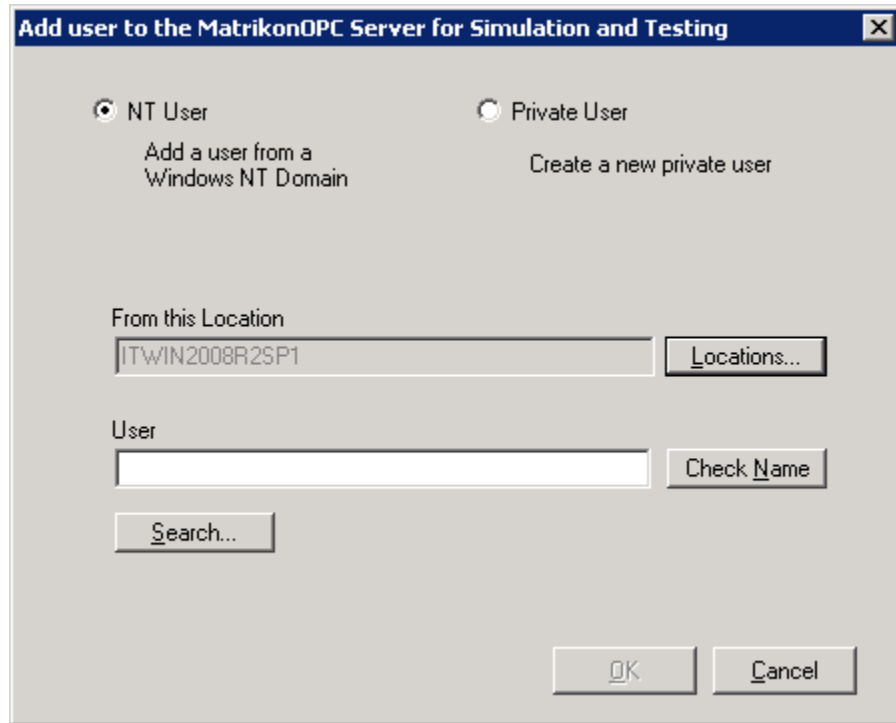

Figure 65 - Add User Window (NT)
- The **Add User** window (Figure 65) appears. The **NT User** option button is selected by default. This will allow the addition of a user from a Windows NT Domain.
2. The **Add User** window (Figure 65) appears.